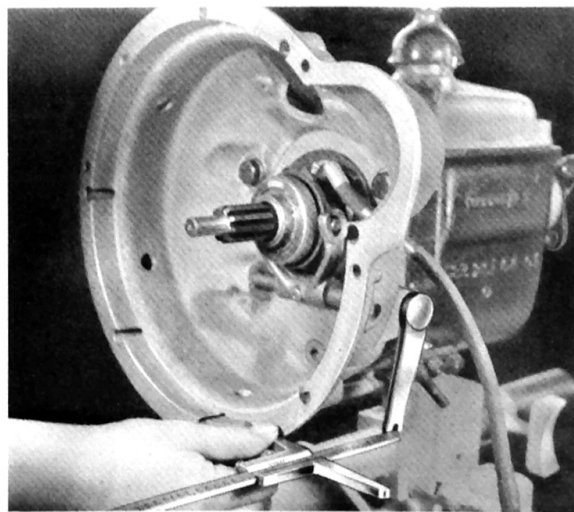

Fig. G 3/69
70. Fill in oil (1.3 liters (0.286 imp.gal.); for this purpose screw-off lateral plug at transmission case, place and tighten shift cover in idling position (Fig. G 3/70).